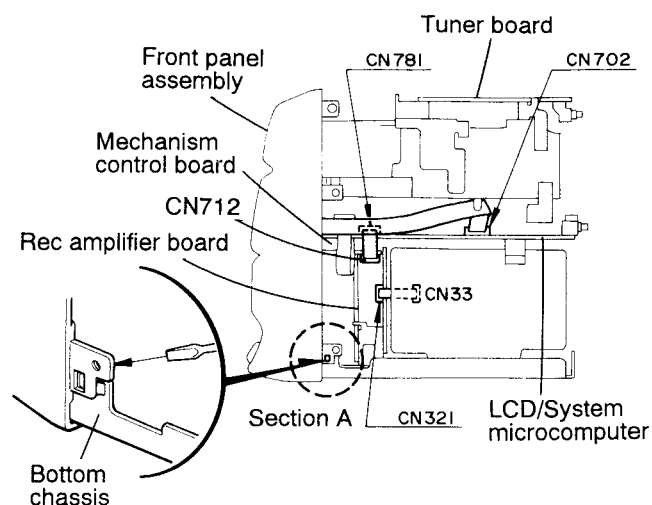

Fig. 5-5
(Figs. 5-5 and 5-6)
1. Face the main unit from the right side. Remove the card wire coming from the front panel assembly from connector CN702 on the LCD/System microcomputer board (Fig. 5-5).
2. Remove the card wire coming from connector CN712 on the mechanism control board from connector CN781 on the LCD/System microcomputer board (Fig. 5-5).
7. Remove the card wire coming from connector CN33 of the power amplifier board from connector CN321 on the Rec amplifier board (Fig. 5-5).
8. Insert a flat driver into the fittings at sections A and B on the right and left sides of the main unit to remove the front panel assembly and the bottom chassis (Fig. 5-5, 5-6).